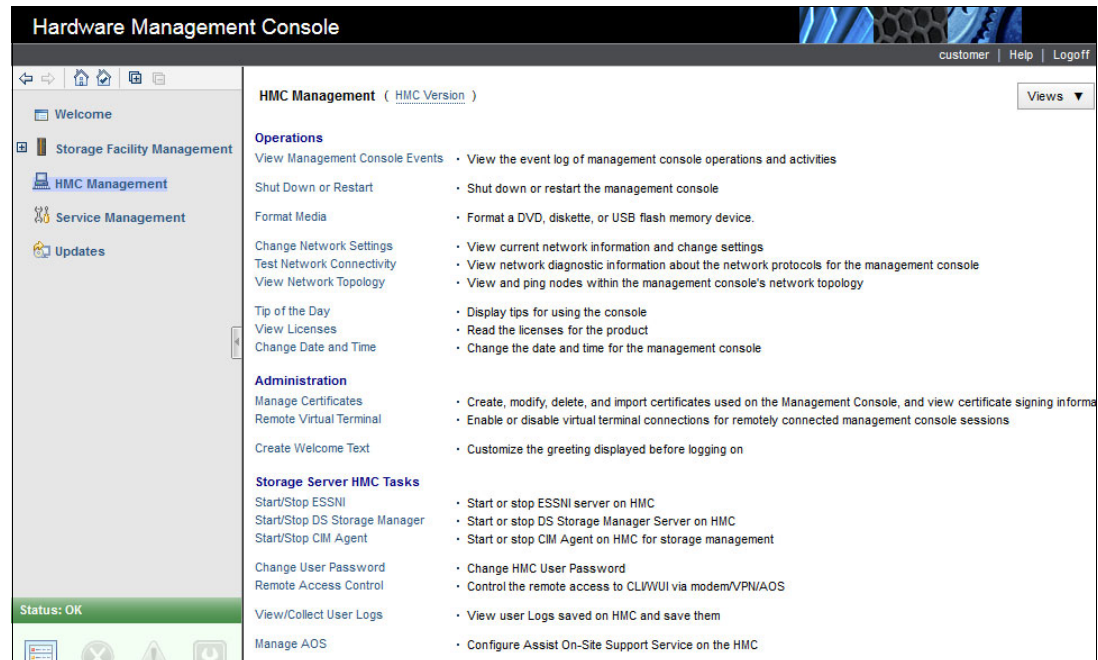

Figure 8-7 Web UI HMC Management window
2. In the HMC Management window, select **Change Network Settings** as shown in Figure 8-7.